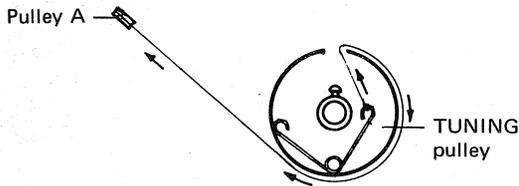

Fig. 1
1. Set the tuning variable capacitor at the fully-closed position. Tie one end of the thread to the spring of the TUNING pulley along with the variable capacitor. Put on the thread in the pulley order (A, B, C) shown in Fig. 1.